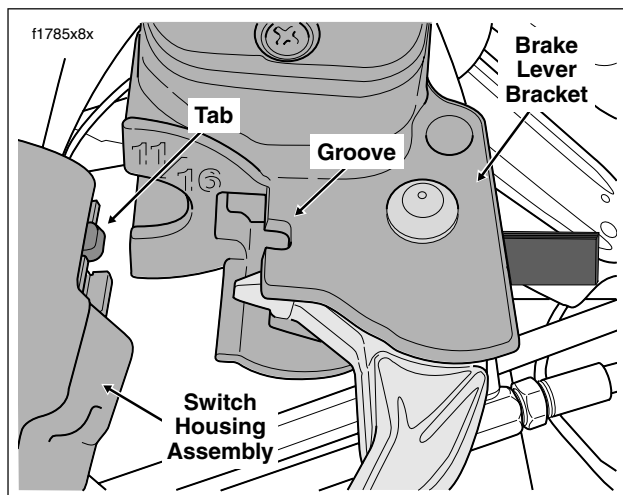

Figure 8-88. Fit Brake Lever/Master Cylinder to Right Handlebar Switch Housings
9. Position the brake lever/master cylinder assembly inboard of the switch housing assembly engaging the tab on the lower switch housing in the groove at the top of the brake lever bracket. See Figure 8-88.